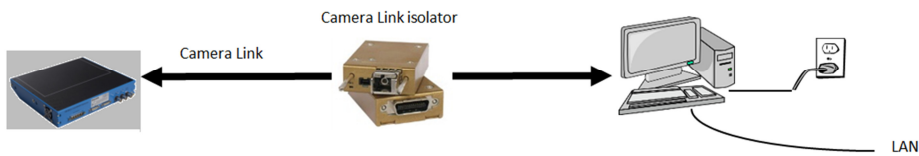

Figure 21: Camera Link isolation.
- Electrical isolation of the Camera Link signals (Figure 21).